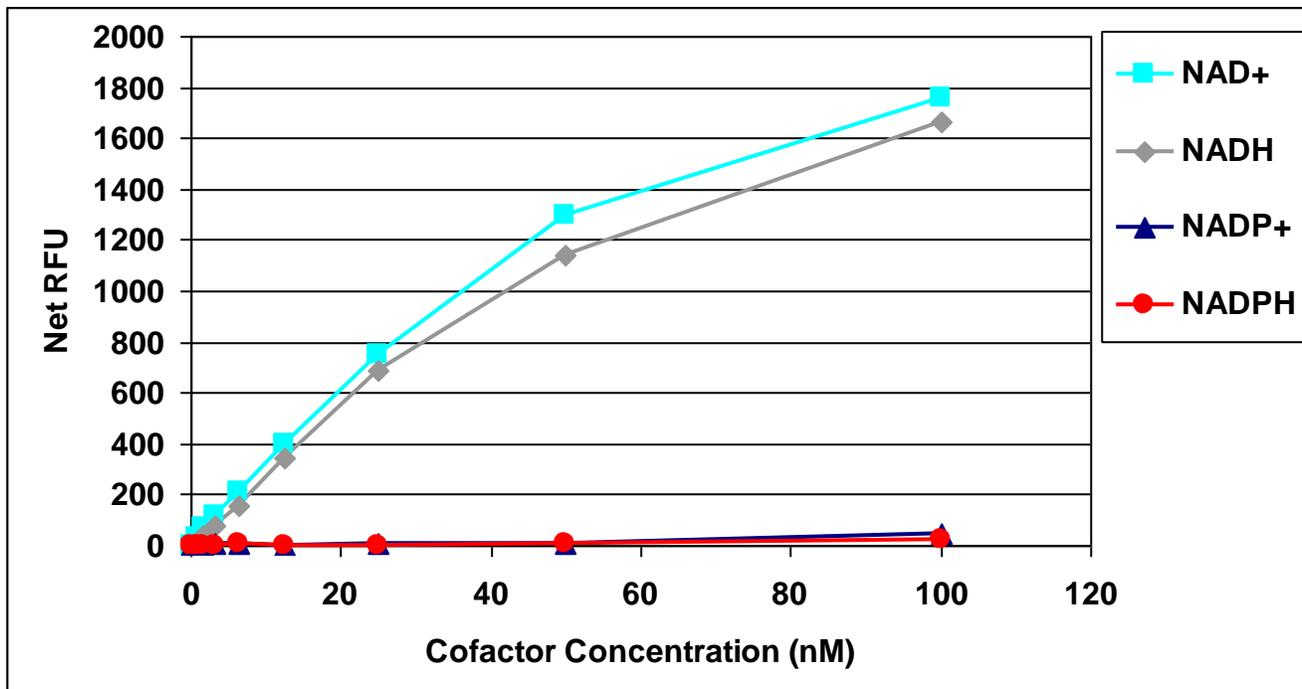

Figure 2: NAD⁺ Standard Curve and Specificity of Assay for NAD⁺ and NADH. NAD⁺, NADH, NADP⁺, and NADPH were tested in the NAD⁺/NADH Assay Kit.
2. Plot the corrected fluorescence for the NAD⁺ standards against the final concentration of the standards from Table 1 to determine the best slope (μM⁻¹). See Figure 2 for an example standard curve.